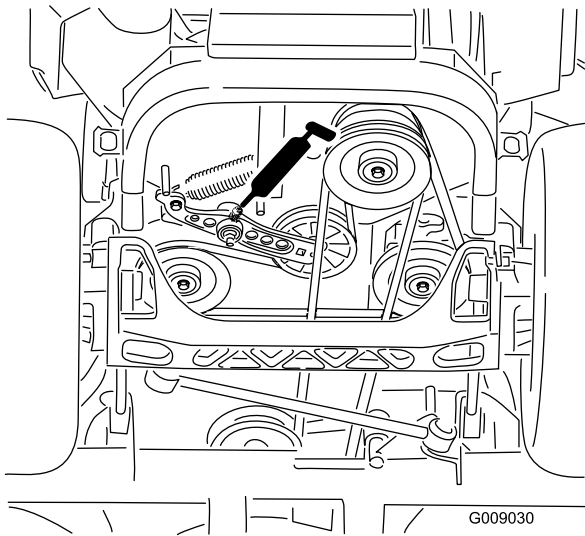

Figure 47
6. Grease the drive belt idler arm (Figure 47).